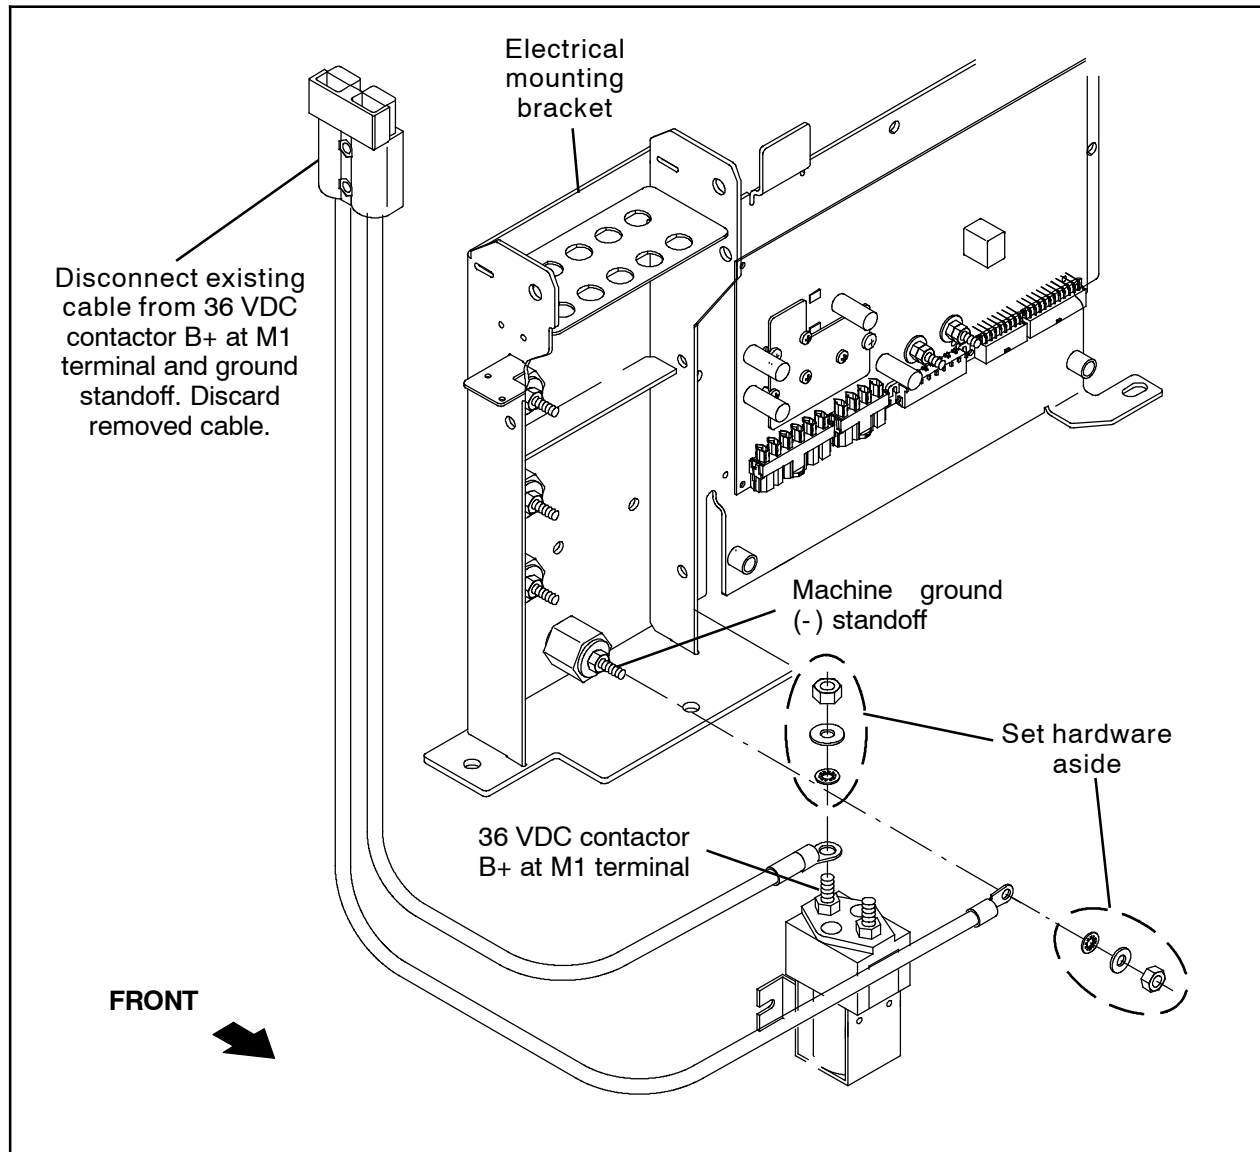

FIG. 2
1. Remove the cable connected to the 36 VDC contactor B+ at M1 and the ground standoff from the machine. Set hardware removed from 36 VDC contactor B+ at M1 and the machine ground (-) standoff aside. Discard the removed cable. (Fig. 2)